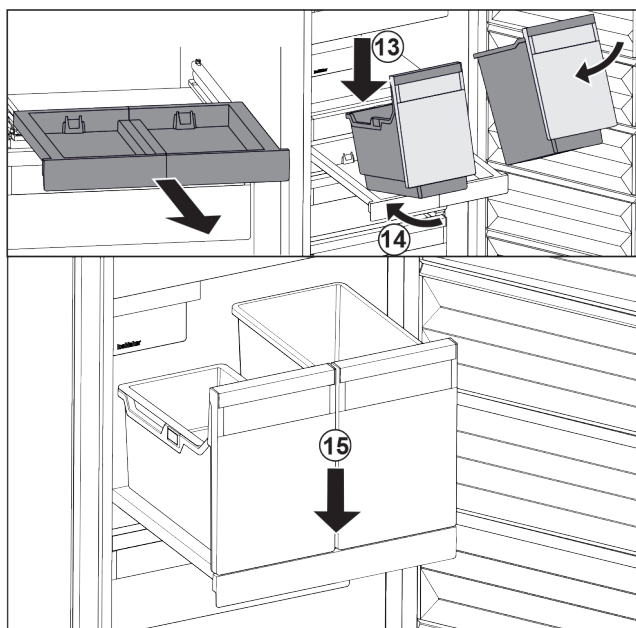

Fig. 24
- Place the container at an angle on the pull-out board. Fig. 24 (13)
- Slide the container to the back at an angle. Fig. 24 (14)
- Place container in the front. Fig. 24 (15)